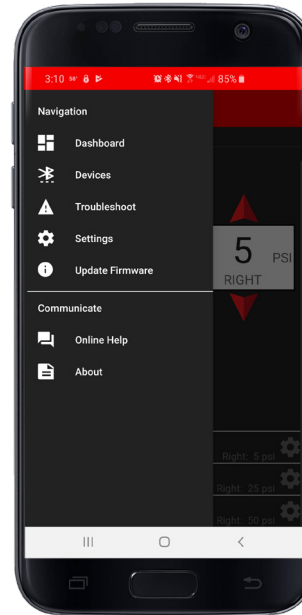

fig. F.1
1. The Navigation/Communicate screen (Fig. F.1) has these options: